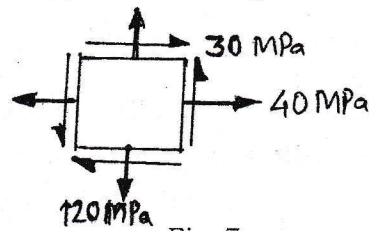

Fig. 7
Q.6) a) If at a point in a strained material, 2-D stress condition is shown in Fig.7; find (i) Principal Stresses and (ii) maximum in-plane shearing stresses. [6]